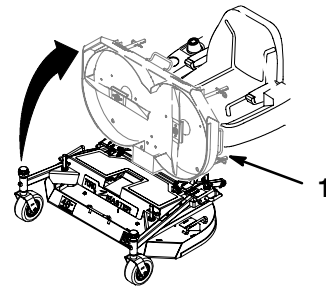

Figure 21
5. Standing in front of the mower, lift up on deck handle and push rearward on front to raise mower (Fig. 21).
2. Standing in front of the mower, pull front deck handle forward and lower mower (Fig. 21).